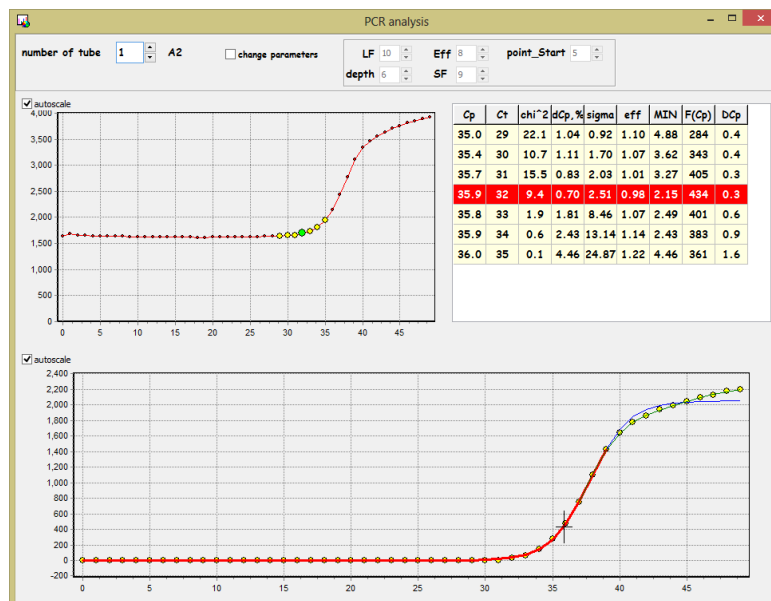

Fig.71 Parameters of PCR curve analysis
- parameters of PCR curve analysis (Fig.71).